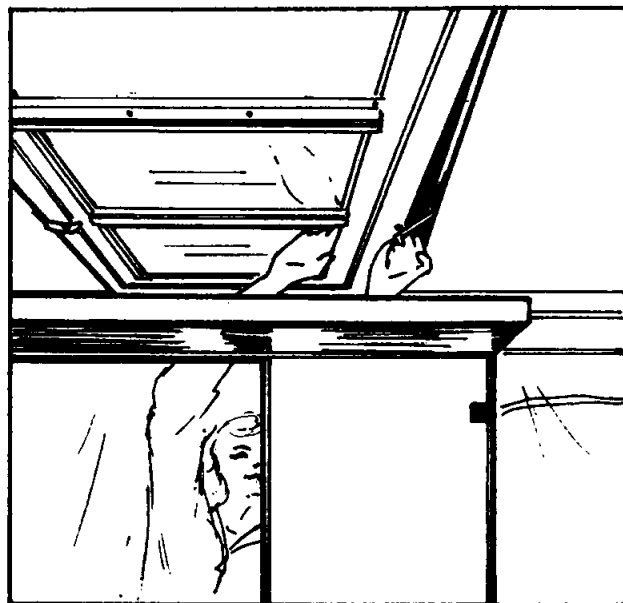

FIGURE 25
32. Unfasten the two screen door retaining straps. This will allow the screen door to hang by its glide cables. See Figure 25.